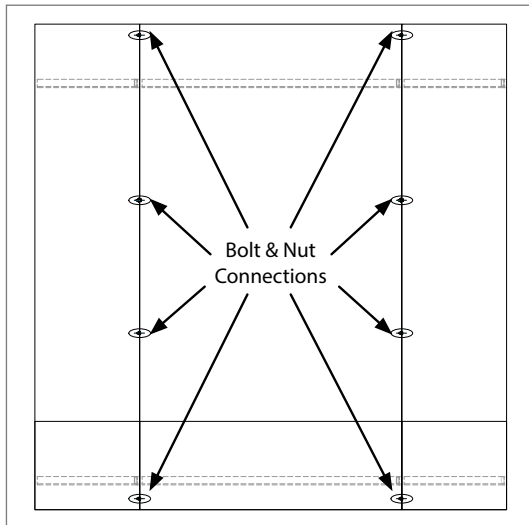

Figure 3
- Align the sections and connect in 4 places along the vertical edges of each section, using the hardware provided (**Figure 3** and **Hardware 1**).